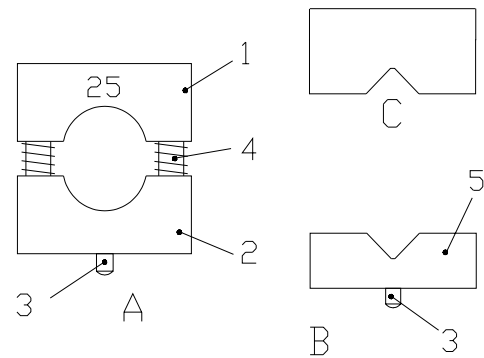

Fig. 57
To cut round specimens, the insert for round specimens (fig. 57.A) with defined diameters of 6, 15 and 25 mm (special sizes on request) or the V-insert (fig. 57.B) can be clamped into the standard specimen clamp.
- To fasten the V-distance piece (fig. 57.C) on the fixed jaw (fig. 56.2) of the standard specimen clamp, the clamping screw (fig. 56.3) must be unscrewed from the spindle. Pull the spindle off the clamp.